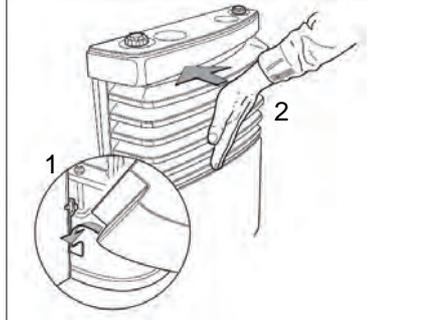

Fig. 111 Mounting the heater cover
- Mount the heater cover. To do so, insert the cover into the lower bracket (Fig. 111,1).
- Swivel the cover in until the catch levers engage audibly (Fig. 111,2).